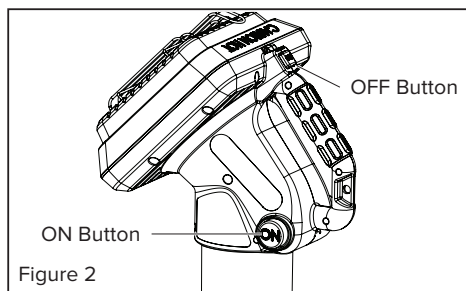

Figure 2
- Push "ON" button and hold to light pilot. Repeat if necessary and hold for 30–60 seconds, see Figure 2.
- To shut off heater, push "OFF" button, see Figure 2.